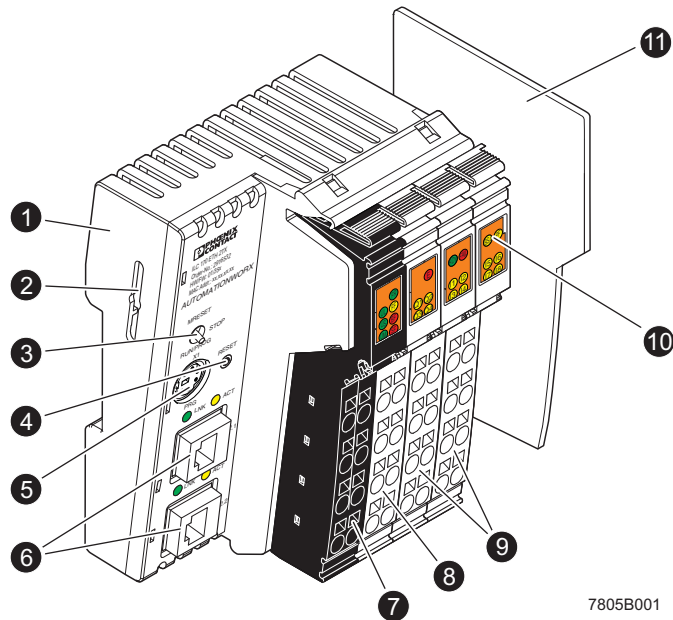

Figure 2-8 Structure of the Inline controller (ILC 170 ETH 2TX, ILC 190 ETH 2TX; shown in the figure: ILC 170 ETH 2TX)
The reset button (see item 3 in Figure 2-7 on page 2-9 or item 4 in Figure 2-8 on page 2-10) on the Inline controller can only be operated with a pin and is therefore protected against accidental activation.